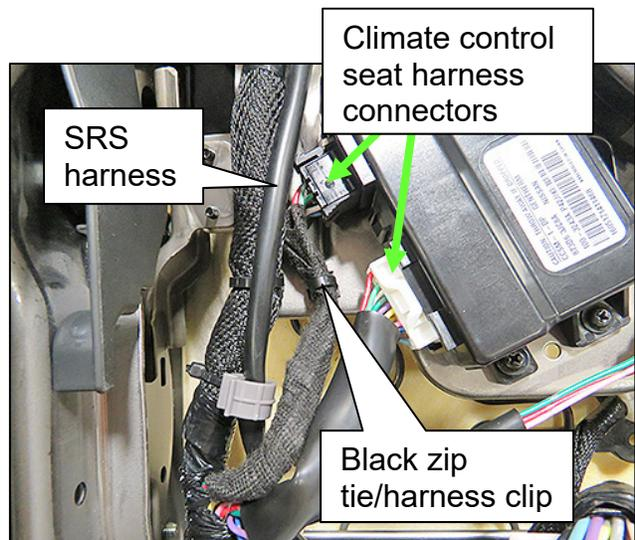

Figure 31
- Route the SRS harness as shown in Figure 31.